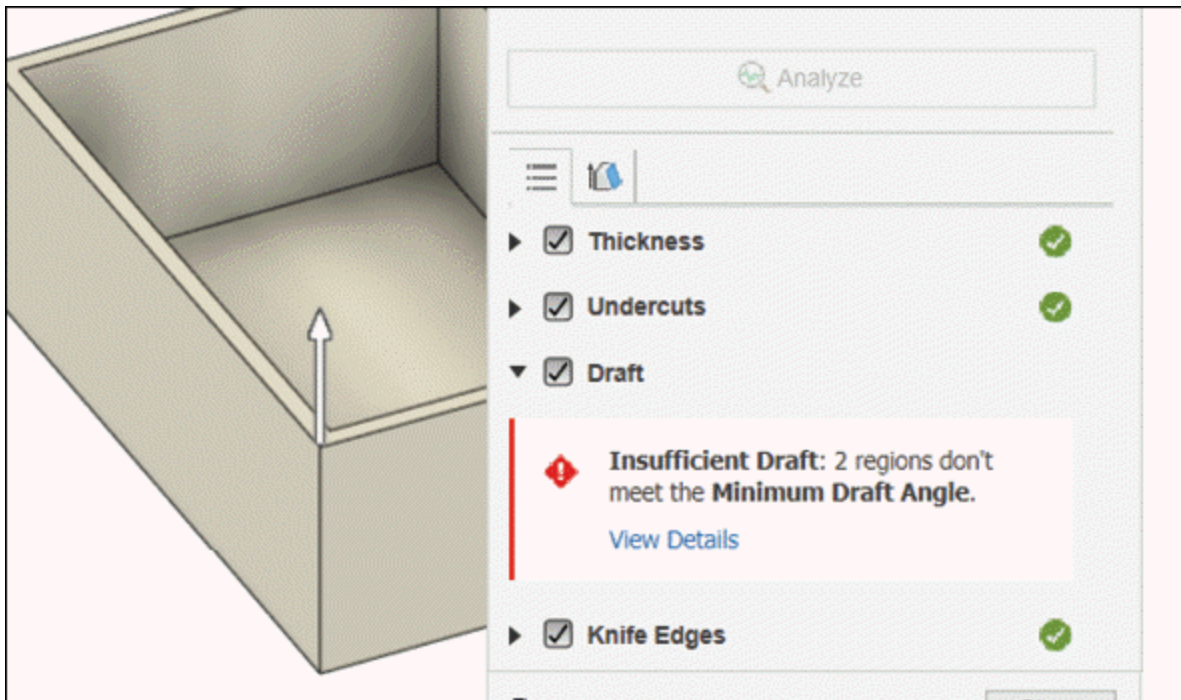

Figure-76. Design advice results
- After setting desired parameters, click on the **Analyze** button. The results of analysis will be displayed; refer to Figure-76. Modify the part as per the analysis results and if